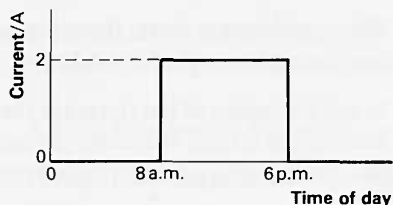

Figure B75
- 28(I)** Suppose a battery supplies a current of two amperes for 10 hours, the change of current with time being shown in figure B75.
- d Copy figure B75 and show how the charge which has passed from 8 a.m. to some time before 6 p.m. can be represented on the graph.